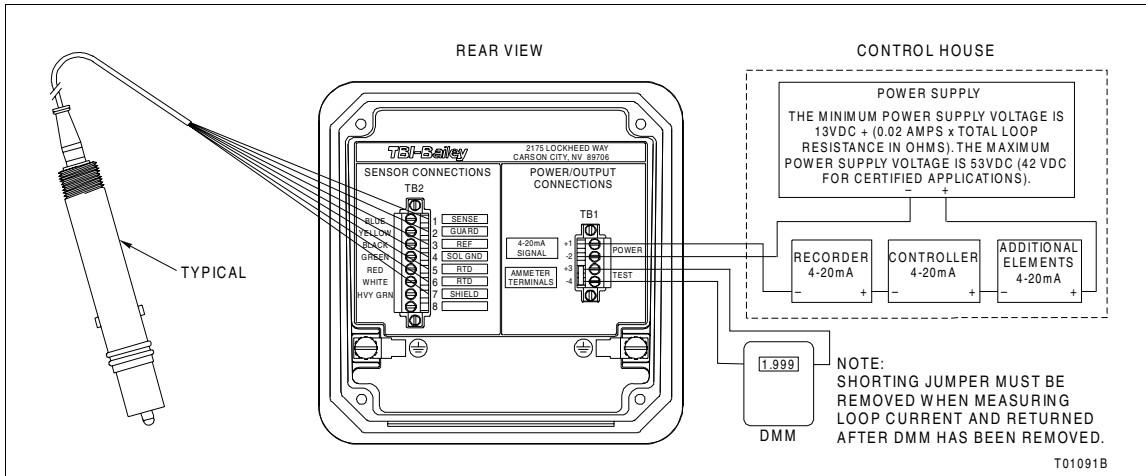

Figure PR7-1. Sensor Connections
- 3. Use the small bladed screwdriver to connect the sensor wiring as shown in Table PR7-1 and Figure PR7-1.